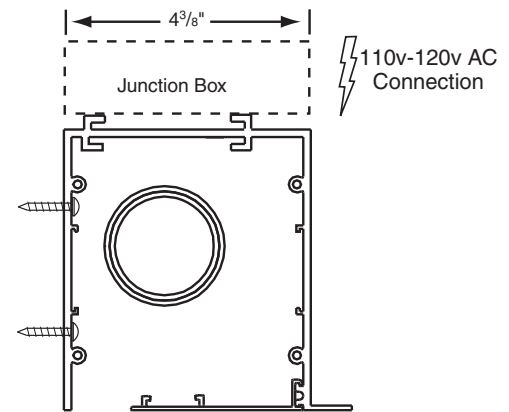

Figure 2
- ① Drill holes through the back of the rear housing as required.
- ② Position housing against wall and transfer mounting hole locations.
- ③ Install appropriate anchors.
- ④ Mount housing to wall (see Fig. 2).